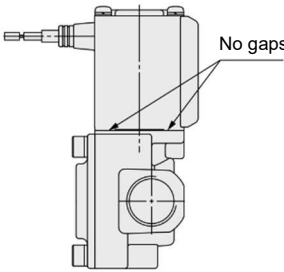

Figure 15.
- After tightening the screws, make sure that there are no gaps between the coil and body (Fig. 15).